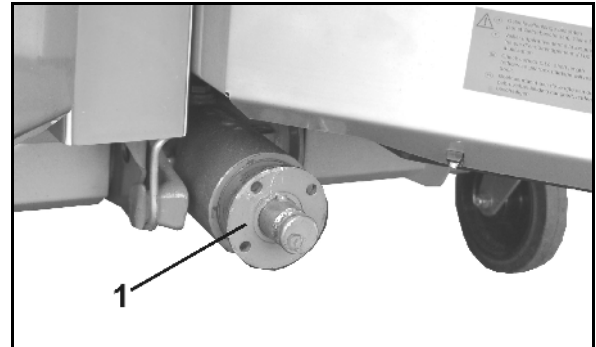

Fig. 37
1. Use an extractor to pull the flange bushing (Fig. 37/1) from the gearbox input shaft.